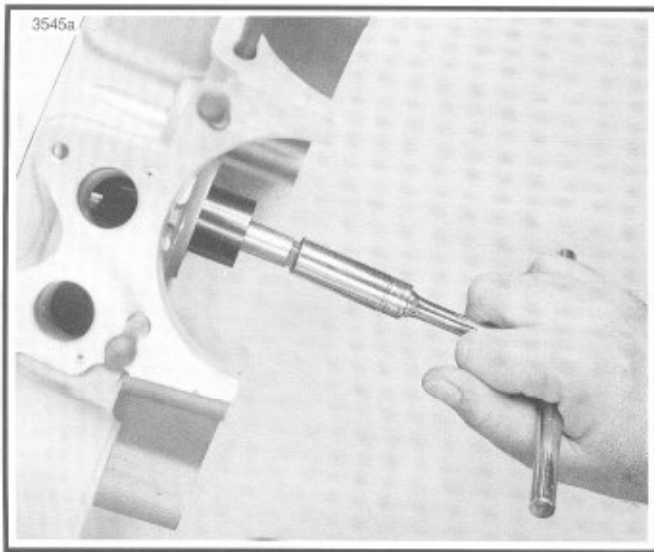

Figure 3-68. Line Reaming Pinion Shaft Bushing
- See Figure 3-68. Install PINION SHAFT BUSHING REAMER PILOT (Part No. HD-94812-87) into right crankcase roller race. Insert PINION SHAFT BUSHING REAMER (Part No. HD-94812-1) through the pilot.